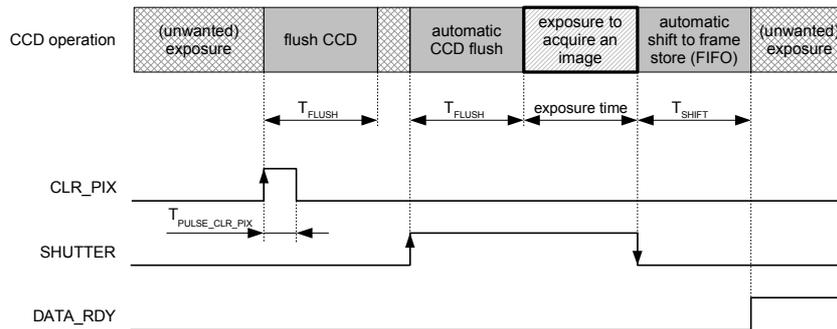
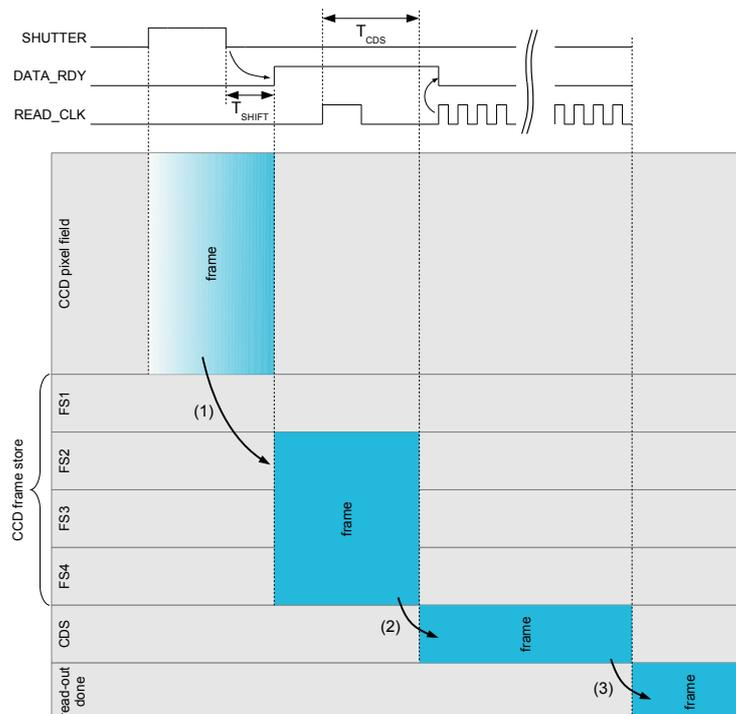
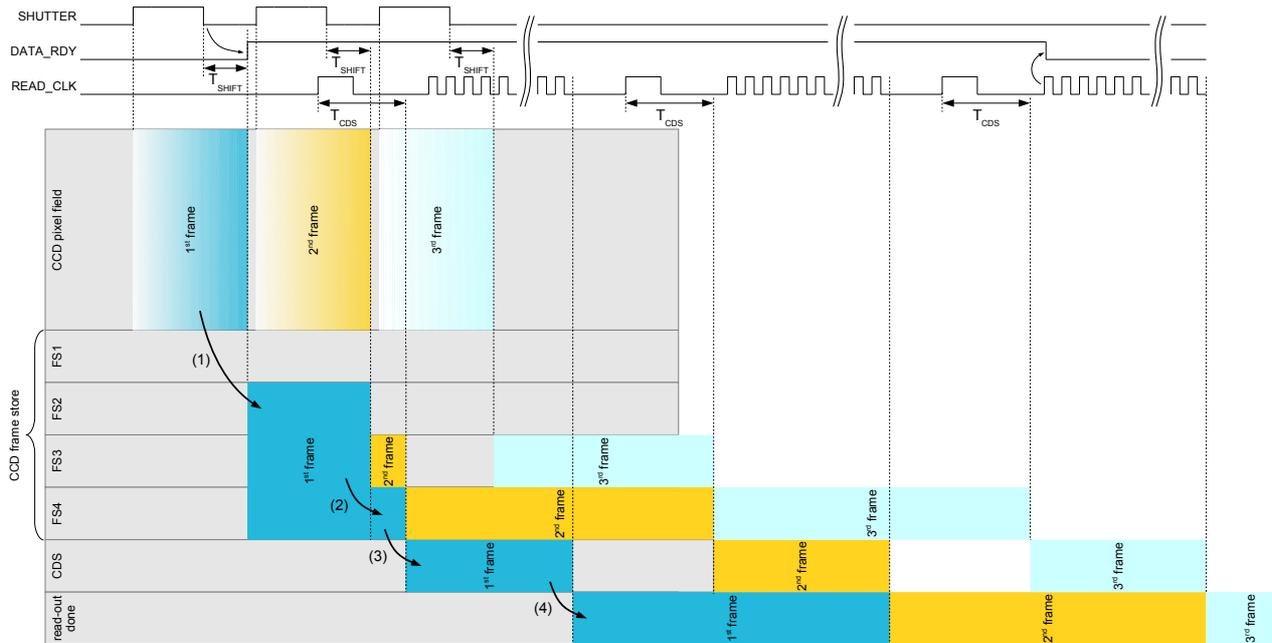
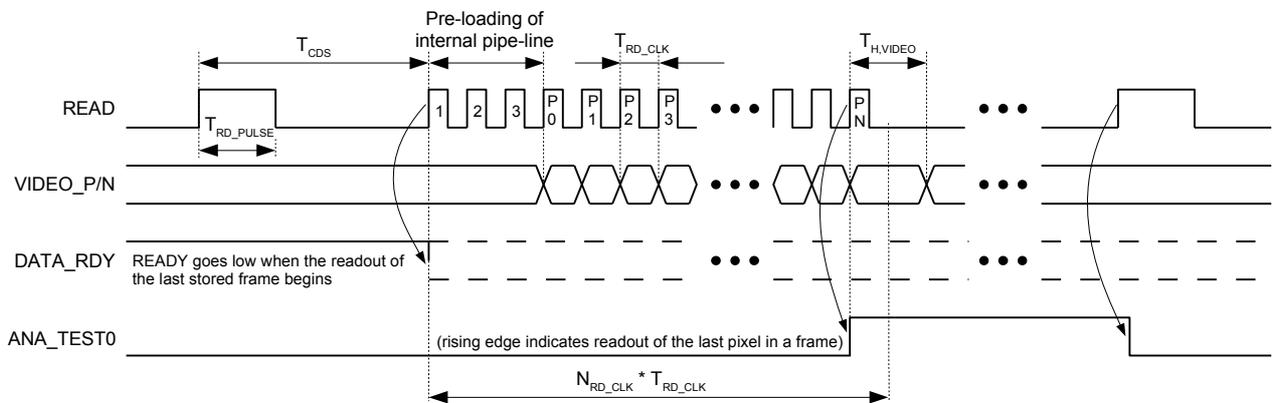

Figure 7: Image acquisition timing
Figure 8: Illustrative example of single-frame acquisition and read-out
Figure 9: Illustrative example of multi-frame acquisition and read-out
Figure 10: Image readout timing of one frame
The acquisition of a frame is controlled by a pulse on pin SHUTTER (see Figure 7). The rising edge of a pulse on SHUTTER triggers the internal flush operation to erase the CCD from any unwanted electrons prior to the exposure. The exposure starts automatically after the flush operation is completed. The CCD collects electrons thereafter as long as the SHUTTER pin is high. Upon the falling edge of SHUTTER, the charge collected in the CCD pixel field is automatically shifted to the CCD frame store which is a photo-insensitive area (see (1) in Figure 8). As soon as the frame is ready for read-out, the signal DATA_RDY goes high. The image is ready to be readout as described in section 5.4..
Up to 4 images can be acquired and stored in the CCD frame store in a fast sequence without intermediate read-out. The CCD frame store is organized in 4 CCD frame store elements (FS1-FS4), thereby each CCD frame store element can store one frame/image. The first captured image initially occupies 3 frame store elements as for a single-frame acquisition (see section 5.2 and Figure 8). epc901 automatically detects a multi-frame acquisition when detecting the second SHUTTER signal without prior read-out. Upon the second shutter the first image is shifted to a single frame store element (see (2) in Figure 9). The frames are shifted from the CCD pixel field to and through the CCD frame store in a FIFO-manner i.e. the first captured image is the first one read out. The read-out is described in more detail in section 5.4. As soon as 4 frames have been captured without prior read-out, at least one read-out has to be issued prior the next shutter in order to make FS1 available again. Excessive shutter pulses are ignored.
according to the specified conversion gain (CG). This operation is called correlated double-sampling (CDS) and lasts for the time T_{CDS} (refer also to the block diagram in Figure 3 or Table 10). Following the Read Pulse, respecting a delay of at least T_{CDS} , Read Clock pulses are applied to the READ pin in order to transfer the pixel voltages to the VIDEO_P/N pins. The first 3 Read Clock pulses, designated with 1, 2 and 3 in Figure 10, are used to pre-load the pipeline. Thus the first 3 pixel voltage values on VIDEO_P/N can be ignored. The subsequent Read Clock pulses, designated with P0 ... PN in Figure 10, transfer the pixel voltage values through the video amplifier to the VIDEO_P/N pins.
The signal DATA_RDY remains high as long as there is at least one frame stored in the CCD frame store. If no more frames are stored except the one that is currently read out, the signal DATA_RDY goes to low state on the first positive Read Clock edge (see Figure 10). If no frame is stored, the chip does nothing upon a Read Pulse.
- The following time periods shall never overlap in any multi frame acquisition or by parallel reading during exposure: T_{FLUSH} with T_{CDS} and T_{SHIFT} with T_{CDS} . Refer for these signals to Figure 7 and Figure 10.